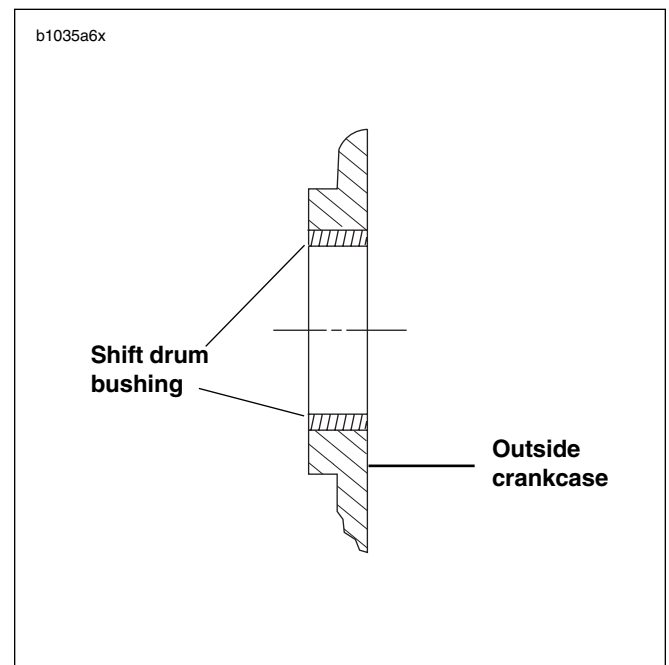

Figure 6-85. Shift Drum Bushing Assembly
2. See Figure 6-85. Lay bushing squarely over bore. Using a pressing tool larger than diameter of bushing, press bushing into bore until bushing contacts shoulder in left crankcase half. If using a pressing tool larger than diameter of bushing, the pressing tool will bottom against crankcase when bushing is flush with top surface.